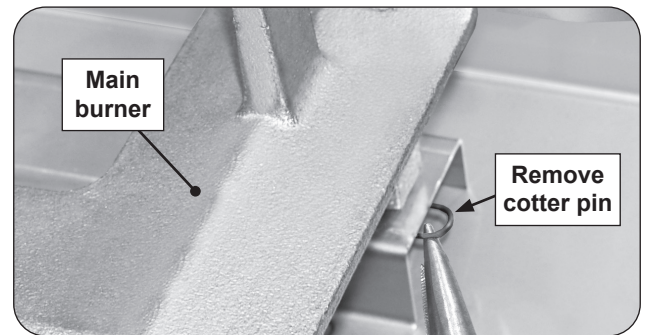

Fig. 49-2 Remove cotter pin
2. Locate and remove the cotter pin from the left or right rear burner anchoring peg by pulling it straight out of the cotter pin hole using fingers or needle-nose pliers. See Fig. 49-2.